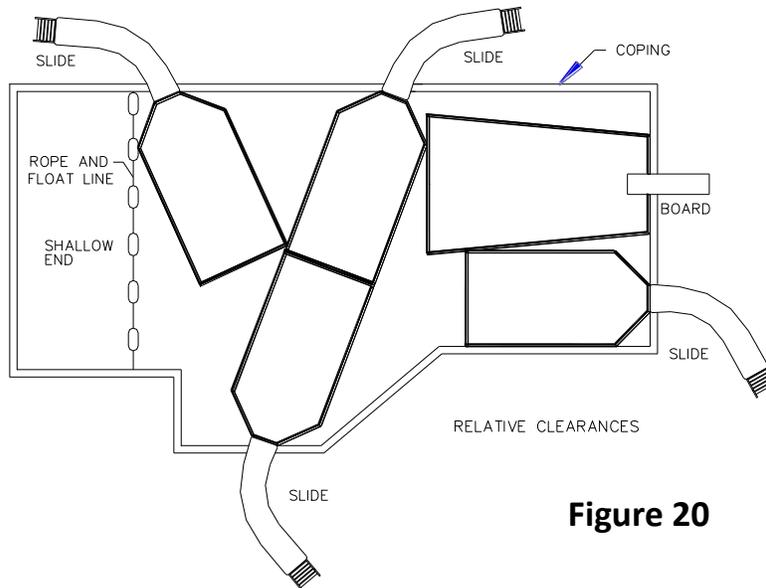

Figure 20
- A. The minimum clearance area in front of a properly installed diving board on an inground swimming pool is a minimum distance of 3'-6" (1067 mm) on either side of the board's centerline as shown in Figure 20. Pt.C extends a minimum distance of "C" from the tip end of the board as shown in Figure 20. The width distance "W" on either side of Pt.C is given in CHART 1 and shown in Figure 20.
B. The minimum clearance area of a slide or diving board shall not intersect any coping or rope and float line. (See Figure 20) The minimum clearance area of a slide or diving board may intersect each other provided that they are not used simultaneously.